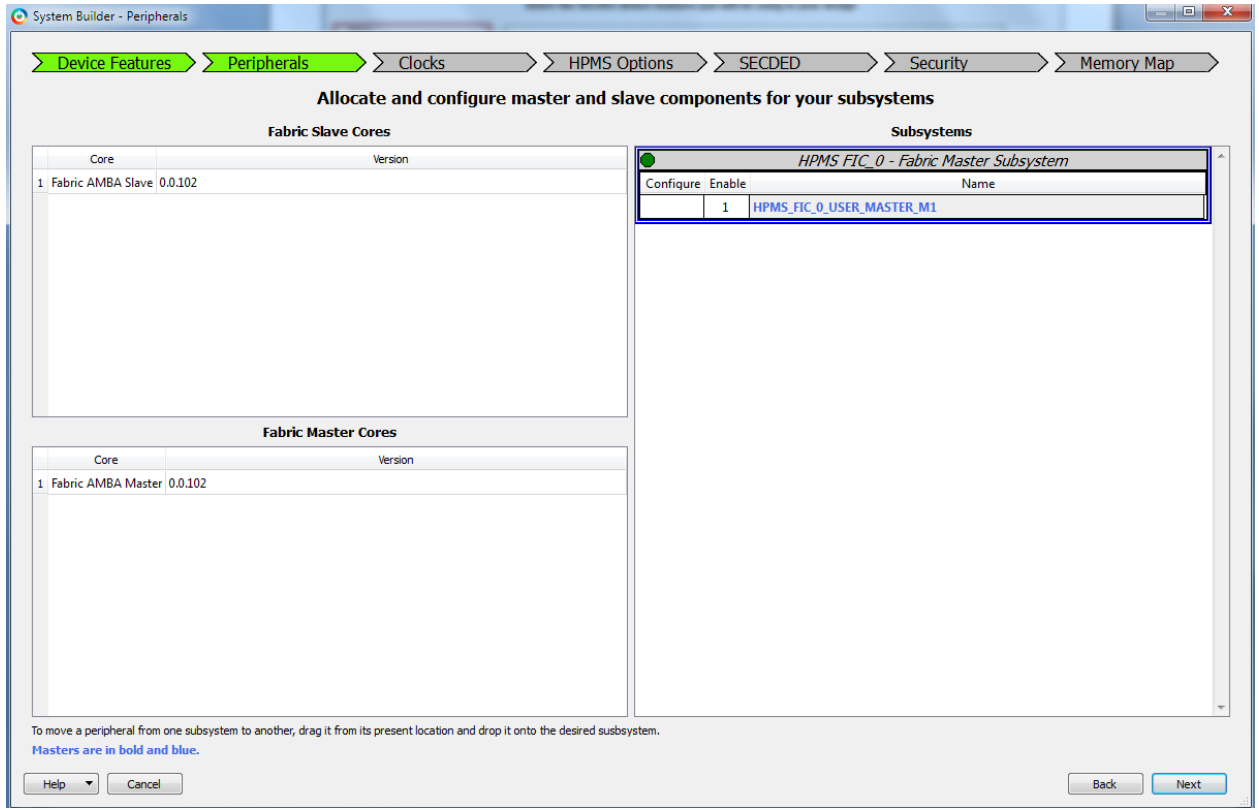

Figure 6 System Builder – Peripherals
- Click **Next**. This opens the **System Builder – Peripherals** tab as shown in Figure 6. Use the default settings.